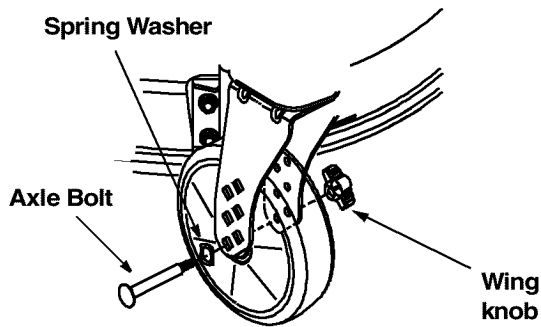

Figure 18
- To adjust, remove the wing knob from the axle bolt. See Figure 18.
- With the spring washer on the axle bolt, reinsert the axle bolt in the square hole desired, through the wheel assembly. See Figure 18.